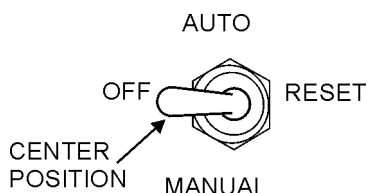

Figure 43. Off/Manual Auto Switch (OFF)
5. Place the Off/Manual/Auto Switch (Figure 43) in the "OFF/RESET" position